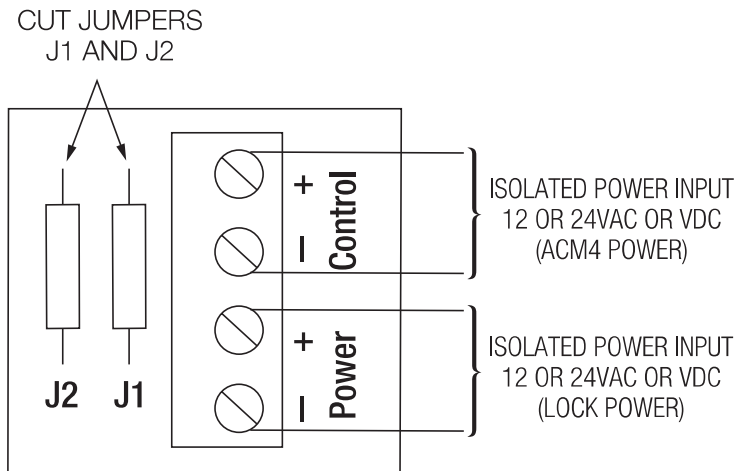

Fig. 3
5. Fire Alarm Interface options (Figs. 3 through 7, pg. 6 - 7):
Connect the positive (+) and negative (-) from the FACP signaling circuit output to the terminals marked [+ INP -]. Connect the FACP EOL to the terminals marked [+ RET -] (polarity is referenced in an alarm condition). Jumper J3 must be cut (Fig. 3, pg. 6).
FACP INTERFACE T, + INPUT -	Fire Alarm Interface trigger input from FACP. Trigger inputs can be normally open, normally closed from an FACP output circuit (Fig. 3 through 7, pg. 6-7).